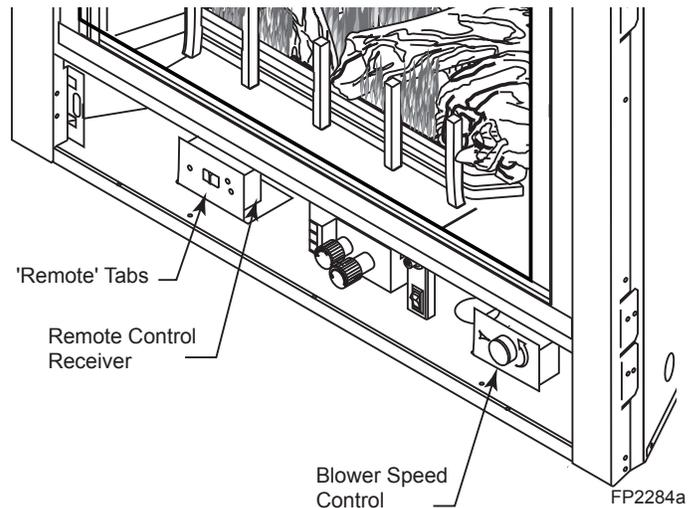

Figure 44 - Optional Control Location
1. Using a flat head screw driver, bend the "remote" tabs up from the bottom of the fireplace. *Figure 44*
4. Use the screws that came with the remote control to mount the remote receiver cover to the bent up "remote" tabs. *Figure 44*